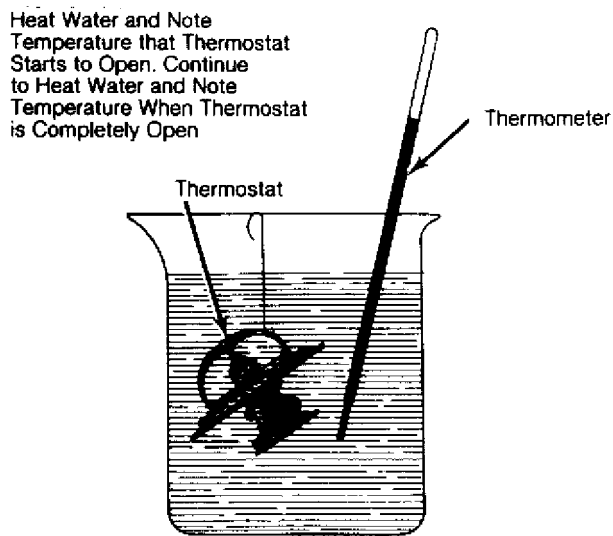

Fig. 1: Testing Thermostat in Anti-Freeze/Water Solution Support thermometer so it does not touch bottom of container.
1) Visually inspect thermostat for corrosion and proper sealing of valve and seat. If satisfactory, suspend thermostat and a thermometer in a container with a 50/50 mixture of anti-freeze and water. See Fig. 1.